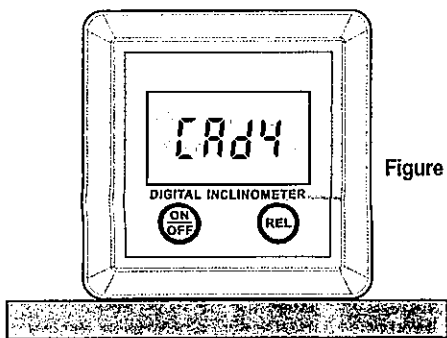
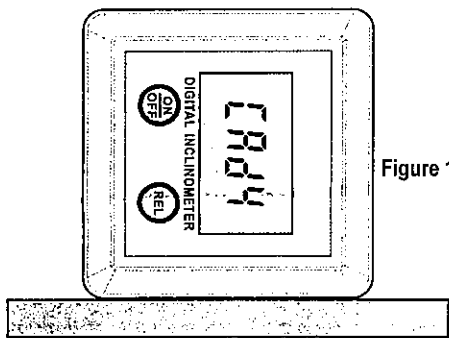

Figure 10
Figure 11
- Wait until the number "4" of the displayed "CA d 4" flashes, then rotate the instrument by 180° along the horizontal axis so that the instrument is placed in a manner indicated in Figure 10. Then rotate the instrument clockwise by 90° with its front panel still facing you; the result placement of the instrument is shown in Figure 11. Press the "REL" key once. The display shows "CA d 5".